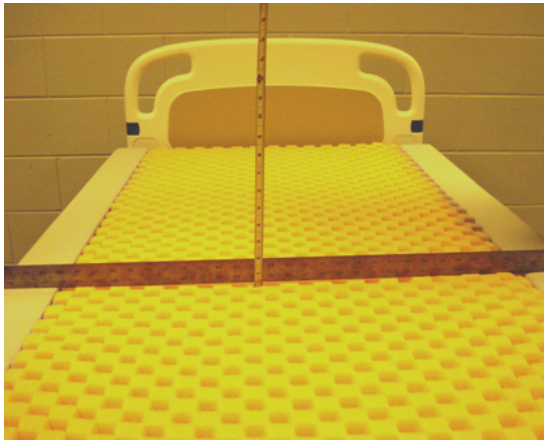

Figure 1 – Straight edge
6. Place a straight edge (at least 35 in. (88.9 cm) long) across the foam crib from left to right at the sacral region (patient seat section) of the support surface (Figure 1).